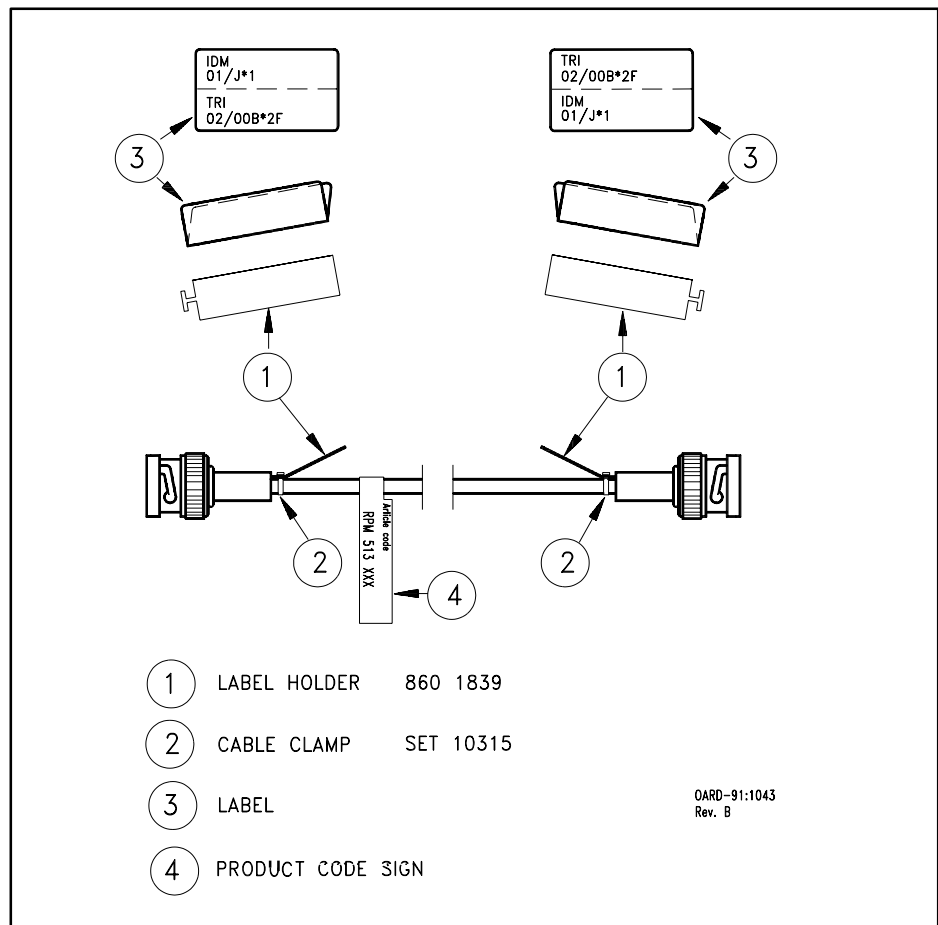

Figure 1 Attaching labels on a cable
1. Identify the cable by the Product code sign, which has been mounted on the cable at the factory, (4) in figure 1.
4. Put a label into the Label holder type 860 1839, (1) in figure 1.
5. Clamp label holder to cable using Cable clamp set 103 15, (2) in figure 1.